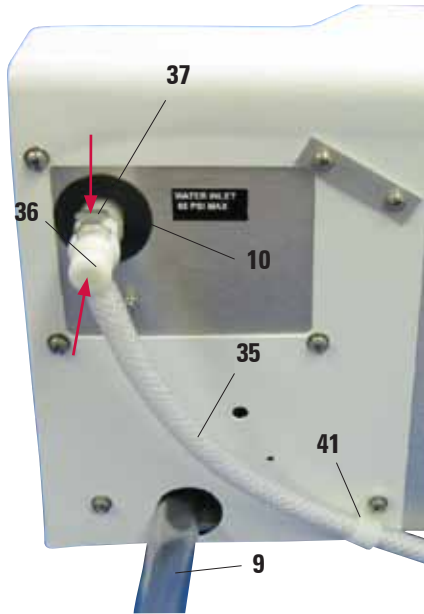

Fig. 21
- Run the drain hose (9) into a suitable collecting tank or waste basin. Make sure that the hose is not kinked and that the water is able to drain freely downwards.
- Then connect the rinsing water supply (35) to the stainer.
- To do this, push the connector (36) into the orifice (10) on the instrument until it clicks into place. To detach the hose, press on the plate (37) and pull the connector back.
- Secure the hose to the unit using the clamp (37) at the location shown in Fig. 21.